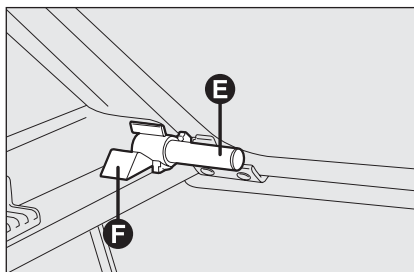

fig. 75
- ☐ release the pins **E-fig. 75** set outside the shelf from their seats **F** on side supports, then remove the rear parcel shelf.